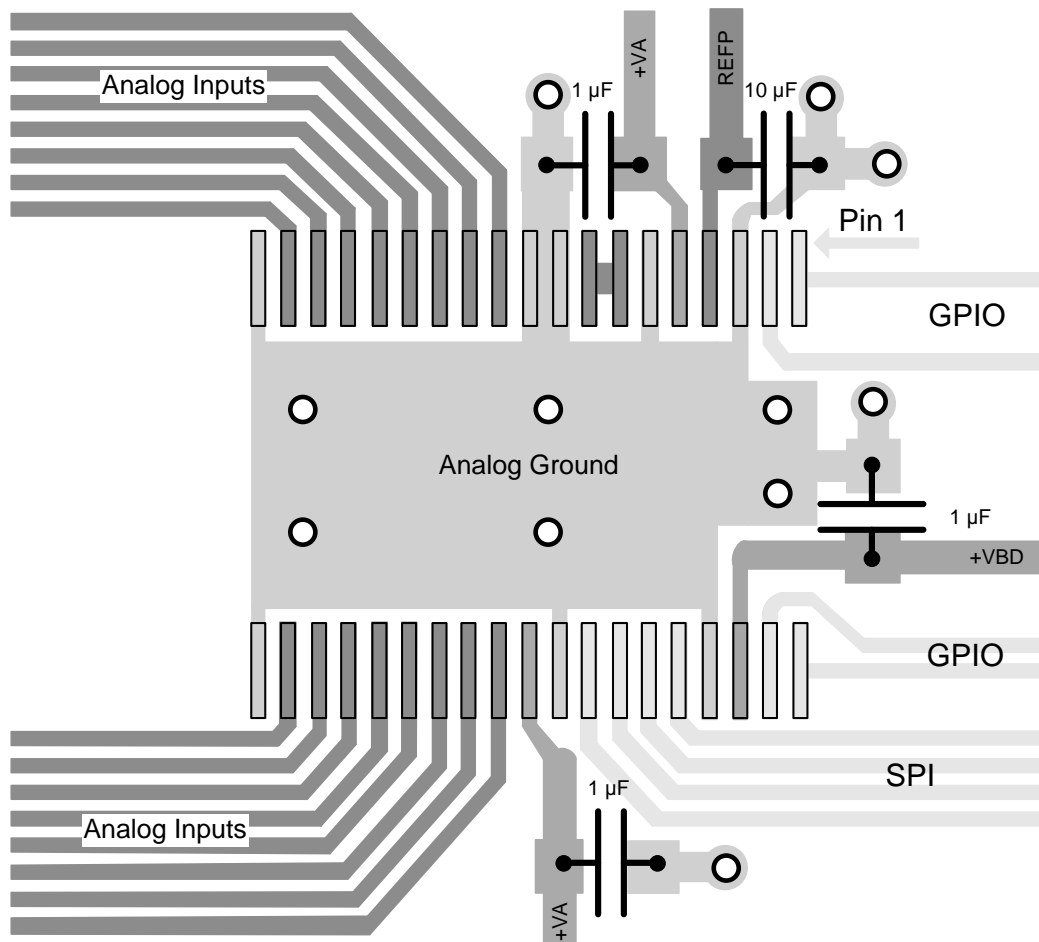

Figure 69. Recommended Layout for the TSSOP Packaged Device
- The power sources must be clean and properly decoupled by placing a capacitor close to each of the three supply pins, as shown in Figure 69 and Figure 70. To minimize ground inductance, ensure that each capacitor ground pin is connected to a grounding via by a very short and thick trace.
- The REFP pin requires a 10- μF ceramic capacitor to meet performance specifications. Place the capacitor directly next to the device. This capacitor ground pin must be routed to the REFM pin by a very short trace, as shown in Figure 69 and Figure 70.
The full-power bandwidth of the converter makes the ADC sensitive to high frequencies in digital lines. Organize components in the PCB by keeping digital lines apart from the analog signal paths. This design configuration is critical to minimize crosstalk. For example, in Figure 69, input drivers are expected to be on the left of the converter and the microcontroller on the right.